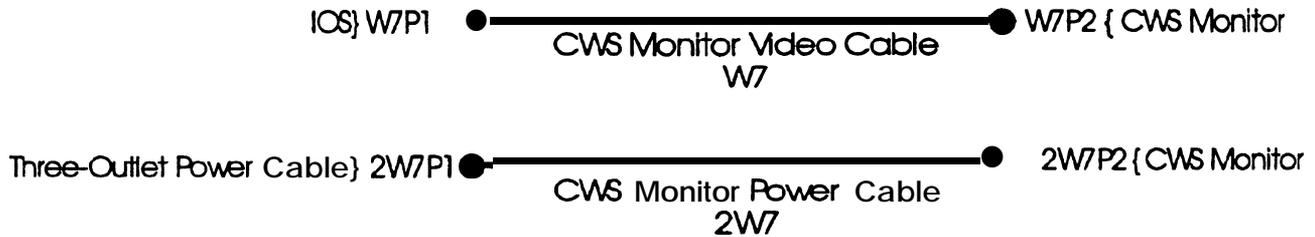

Figure 2-61. CWS Monitor Wire Diagrams
- f. Use Figure 2-61 as a guide to make the following monitor cable connections: